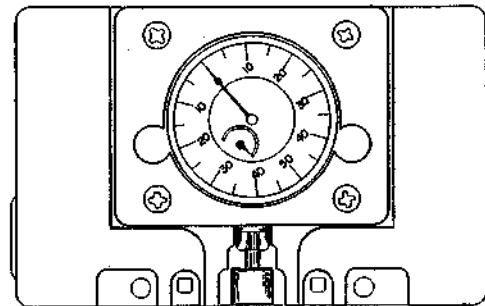

Fig. 24. AKAI Head Projection Gauge
Set the AKAI Head Projection Gauge (Fig. 24) and adjust (a) and (b) screws (Fig. 22) so that it reads: 1.9 to 2.2 mm in the IPLS Mode, 3.55 ± 0.1 mm in the Play Mode.
4. When a mirror installed cassette test tape as shown in Fig. 24 is required, it can be ordered from AKAI Electric Co.